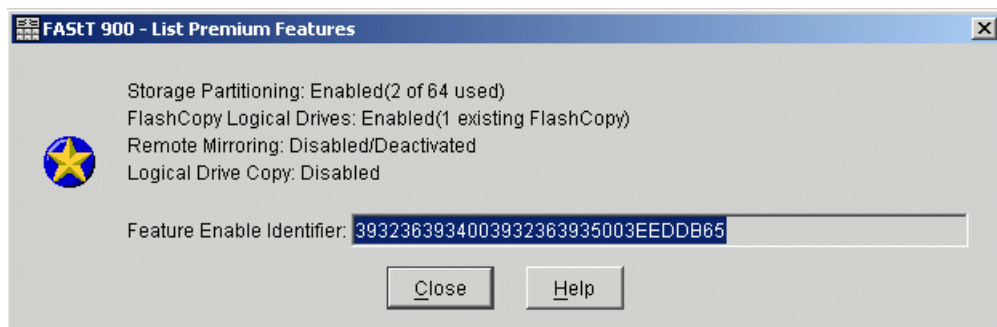

Figure 11-20 Premium features listing and feature enabler key
- From the Subsystem Management Window, select either the **Storage Subsystem -> Premium Features -> List** pull-down menu option, or **Premium Features -> List** from the right-mouse pop-up menu (see Figure 11-20).
You can always check for a list of the premium features that are applied on the FAST Storage Server. From the Subsystem Management Window, select either the **Storage Subsystem -> Premium Features -> List** pull-down menu option, or **Premium Features -> List** from the right-mouse pop-up menu. As a result the Premium Features dialog is displayed with a list of enabled premium features (see Figure 11-20).